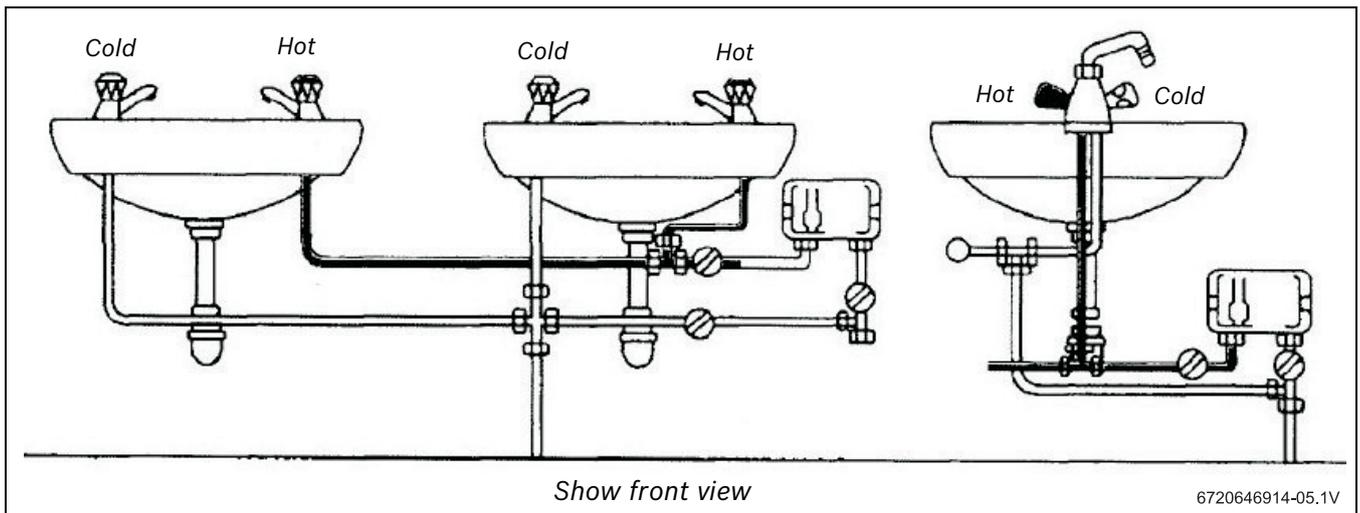

Fig. 4 Examples of installations
- ▶ Position the unit as shown (Fig. 4). Remember to keep the length of hot water pipe to a minimum in order to save energy.
- ▶ Unit must be mounted as shown in Fig. 4 with plumbing connection on the bottom. Under no circumstances should the unit be mounted differently.